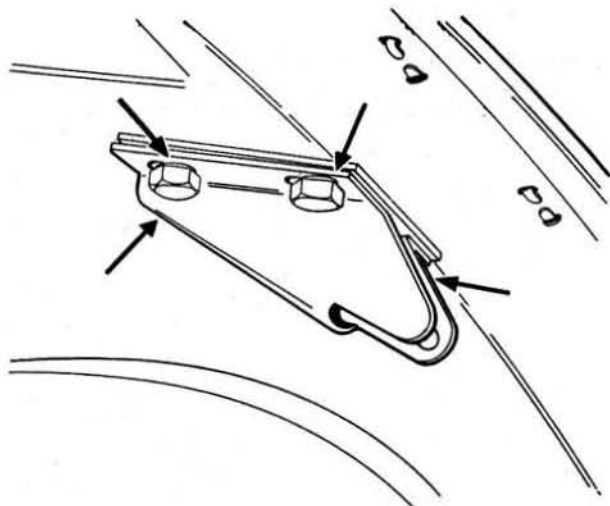

Fig.12.25. Showing means of adjustment for the boot lid striker
- 6 Refitting is the reverse of the removal sequence but check the lid for correct engagement with the lock. If adjustment is required, slacken the four setscrews securing the lock striker to the lid (Fig.12.25) and then move the striker in the elongated holes until the lock operates correctly and does not rattle.